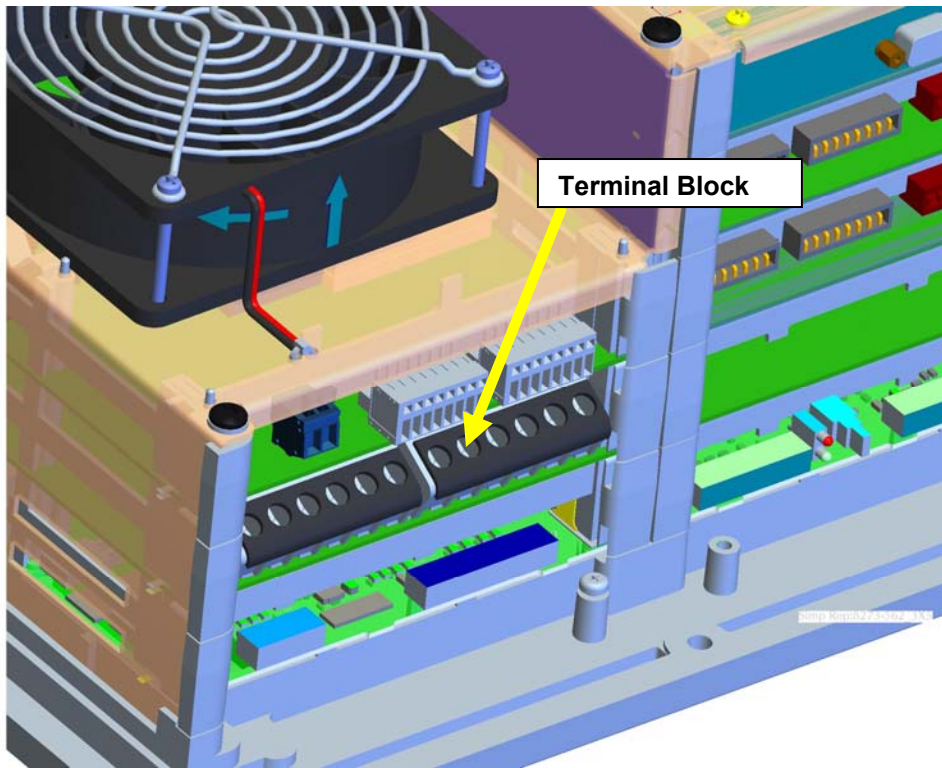

Figure 8-1. Terminal Block Covers
- potential transformer (PT) inputs
- current transformer (CT) inputs
**HIGH VOLTAGE**—To prevent risk of electric shock, make sure that the terminal block covers are installed on the above inputs before operation (see Figure 8-1).